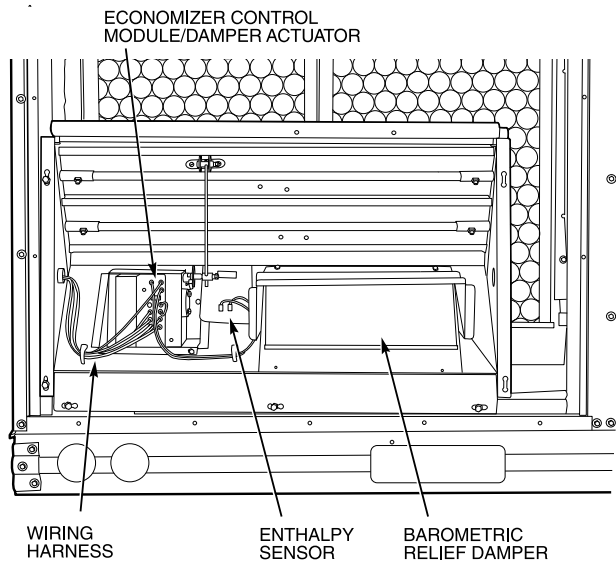

Fig. 22 — PARABLADE Economizer Installed in Unit
5. Slide economizer into unit and secure with screws. See Fig. 22.
6. Insert economizer plug into economizer harness. Remove tape from barometric relief damper. See Fig. 22.